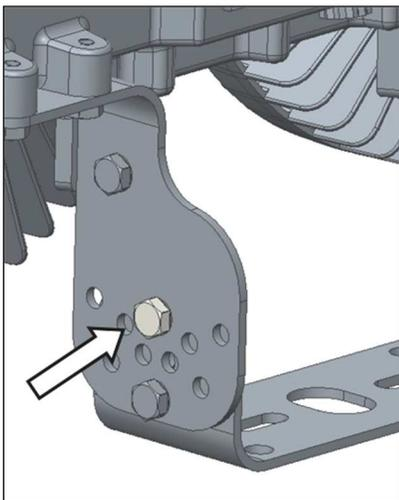

Fig.2
2. Loosen center pivoting M10 hex bolt [**do not remove**] on both sides of light fixture [Fig.2]
6. Tighten the center pivoting M10 hex bolts on both sides [Fig.2] suggested torque = 25 ft.lb [33.9 Nm]
3. Tighten the center pivoting M10 hex bolts on both sides [Fig.2] suggested torque = 25 ft.lb [33.9 Nm]